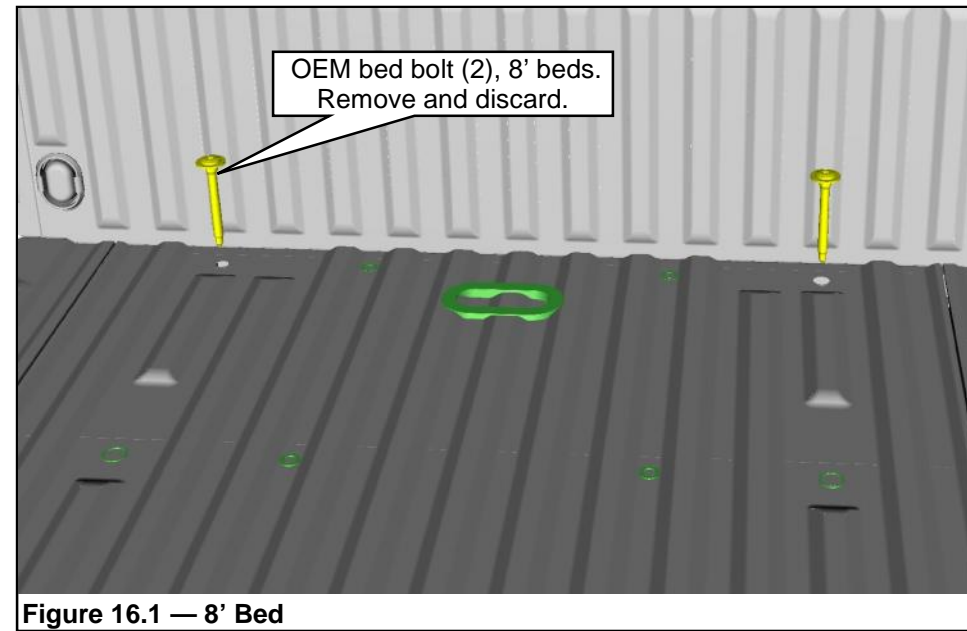

Figure 16.1 — 8' Bed
3. With 8' beds, if not already done, remove the two bed bolts closest to the front of the bed. **Figure 16.1** on page 16. Discard the bolts, however, use one of the bolts to tap or cut threads into the two new U-nuts.